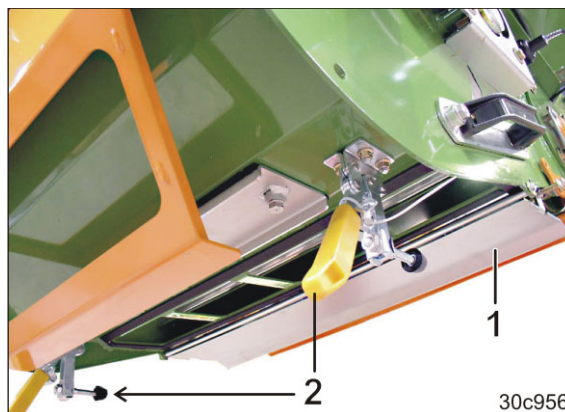

Fig. 263
2. Open the bottom flap (Fig. 263/1).
The bottom flap is secured with quick-release clamps (Fig. 263/2).